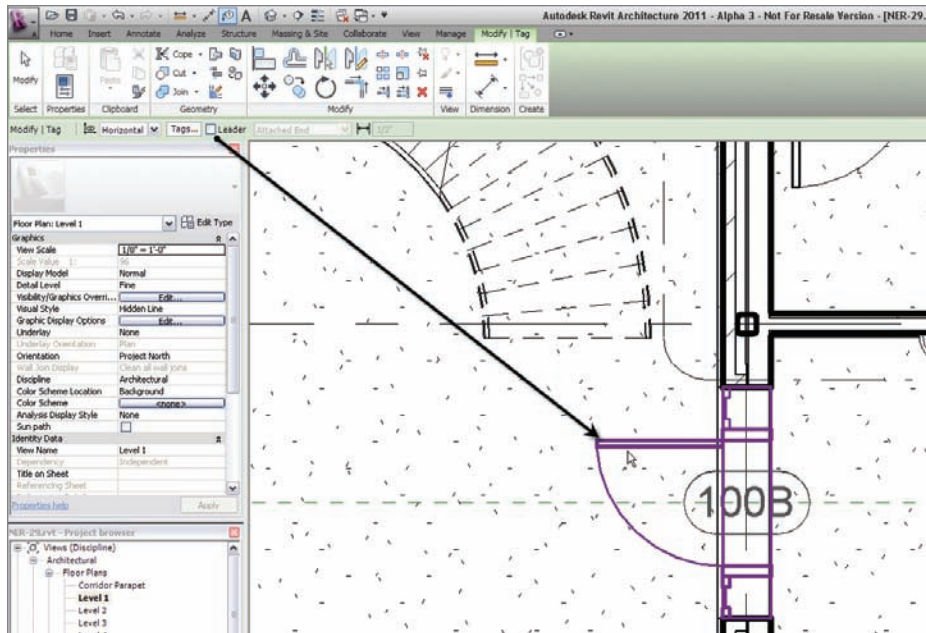

FIGURE 11.62 Tagging the door. Be sure you deselect Leader on the Options bar.
4. On the Options bar, uncheck the Leader option, as shown near the upper left in Figure 11.62.
5. Pick the door shown in Figure 11.62. Your tag is added.